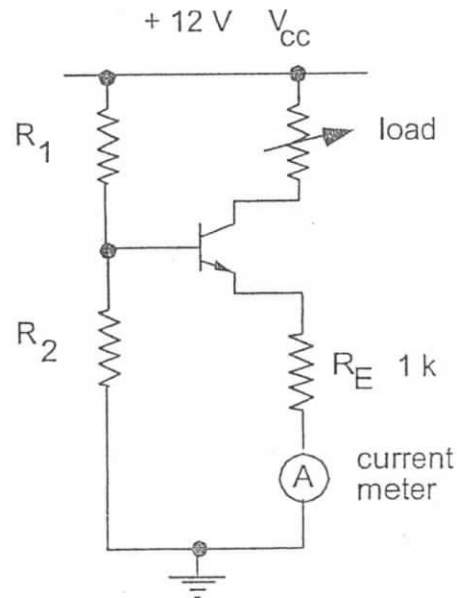

Figure 4-10
“ A current source (Figure 4-10) will supply a constant current to a range of load resistances. The current that is "sourced" or "sunk" is determined by the emitter potential and the emitter resistor  $R_E$ .
- ✎ Using the +12 V power supply built into your prototyping board, connect the circuit shown in Figure 4-10. For the load resistor, use a decade box, set to  $2\text{ k}\Omega$  to begin.